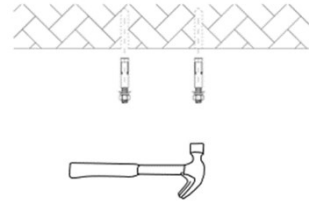

Figure 6
4. Use a hammer to install the expansion screws into the drilled holes. (See Figure 6)